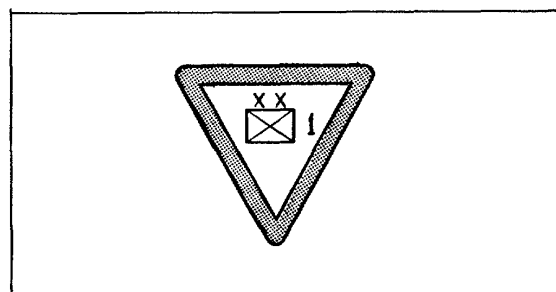

Figure 14. Priority sign.
(1) The priority sign will be made of sheet metal in the shape of an equilateral triangle with one point down. Each side will be 12 inches long; the corners will be rounded to a 1/2inch radius, Figure 14.